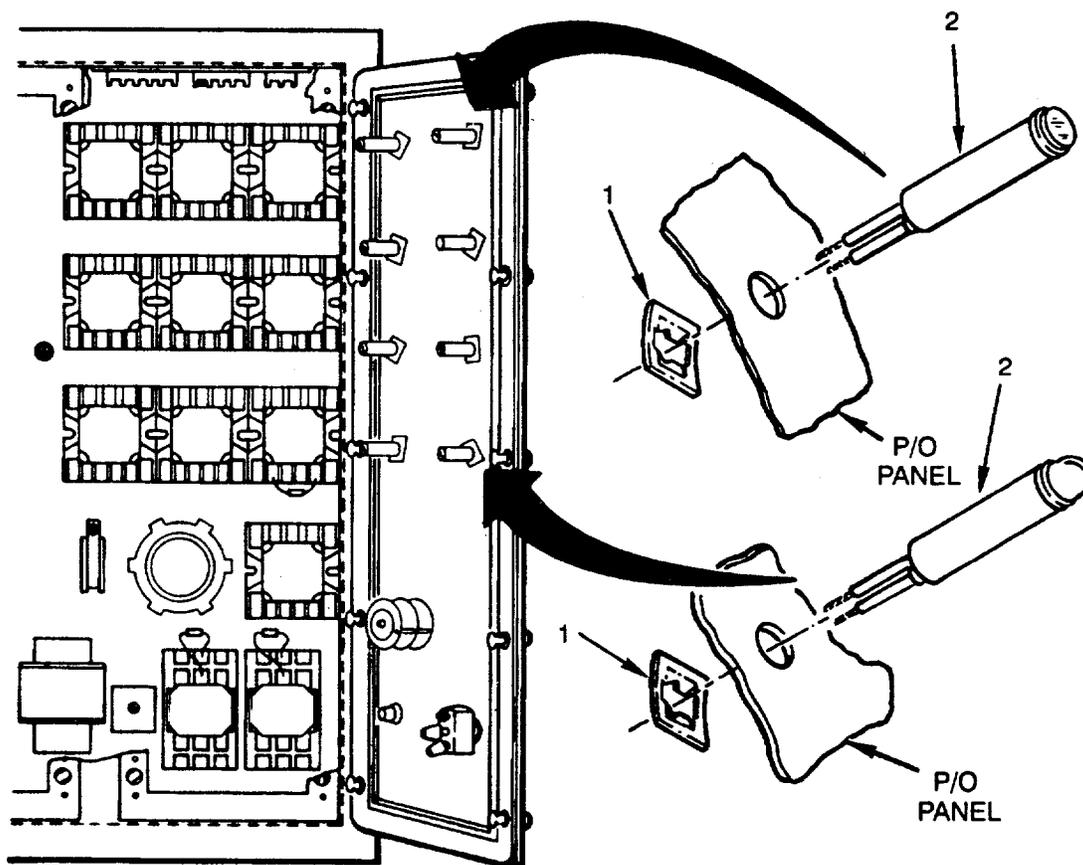

Figure 4-51. Indicator Lights (DS1-DS7, DS9)
1. Check that light lenses are not cracked or broken. Replace light, if damaged (see Figure 4-51).